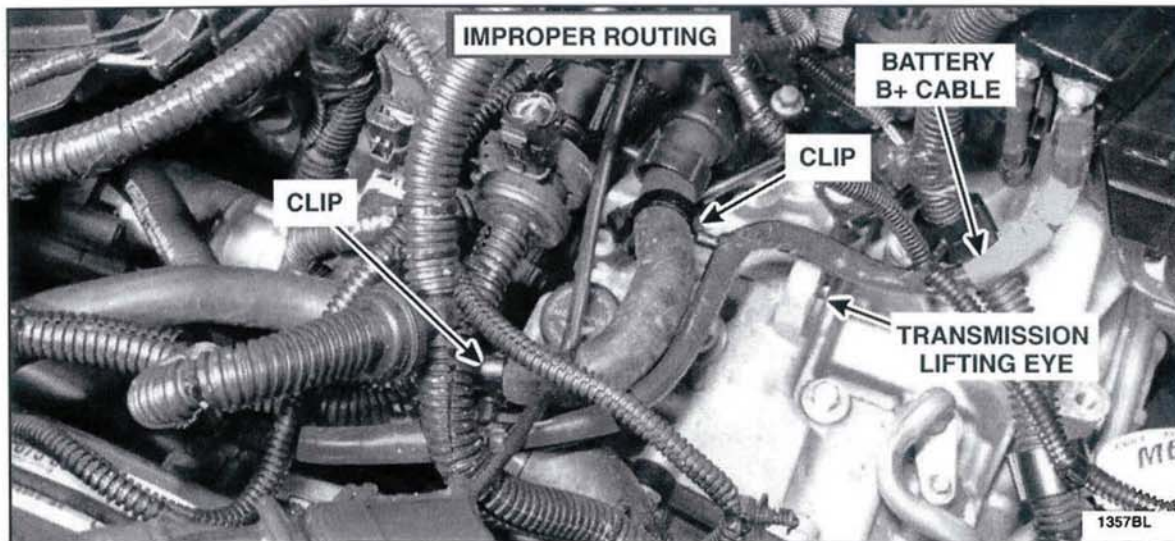

FIGURE M2
- An **improperly routed** cable can be identified by the cable being routed forward of the engine near the radiator, and is not attached to the main engine wiring harness with a zip tie. See Figure M2.